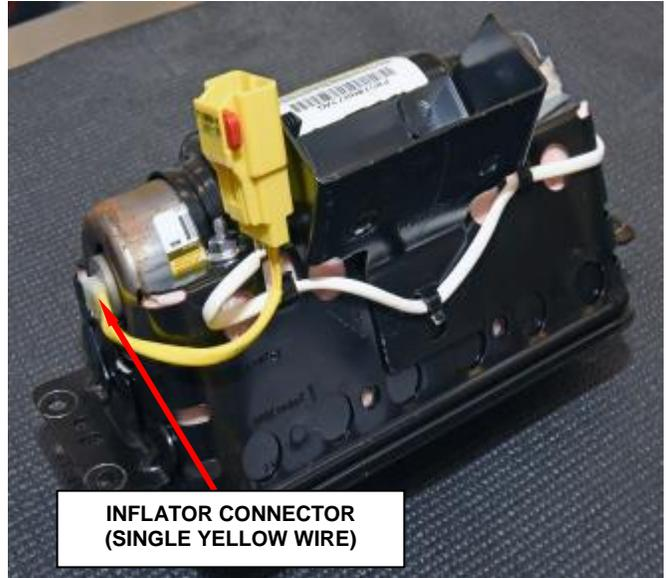

Figure 48 – Inflator Connector
b. Use pliers to grasp the single yellow wire inflator connector then wiggle as you pull up until it is disconnected from the inflator (Figure 48).